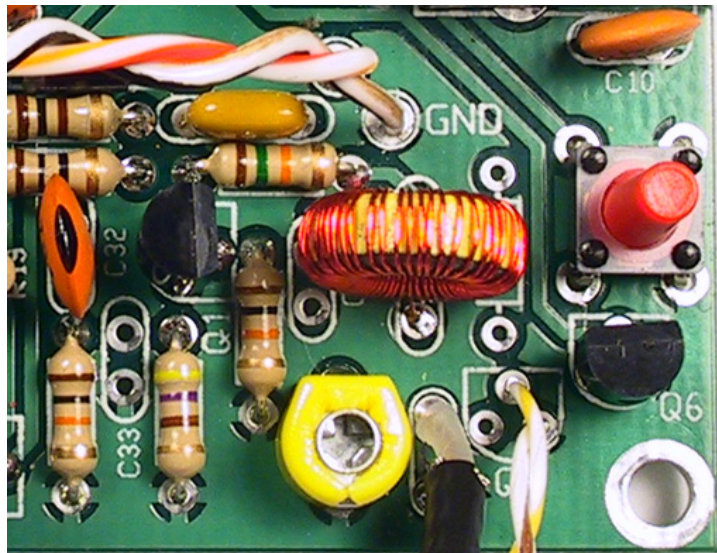

Figure 3 DC Kit Rev A Component Side Modifications
- Install the toroid into the outer plated holes of X1, as shown in Figure 3.